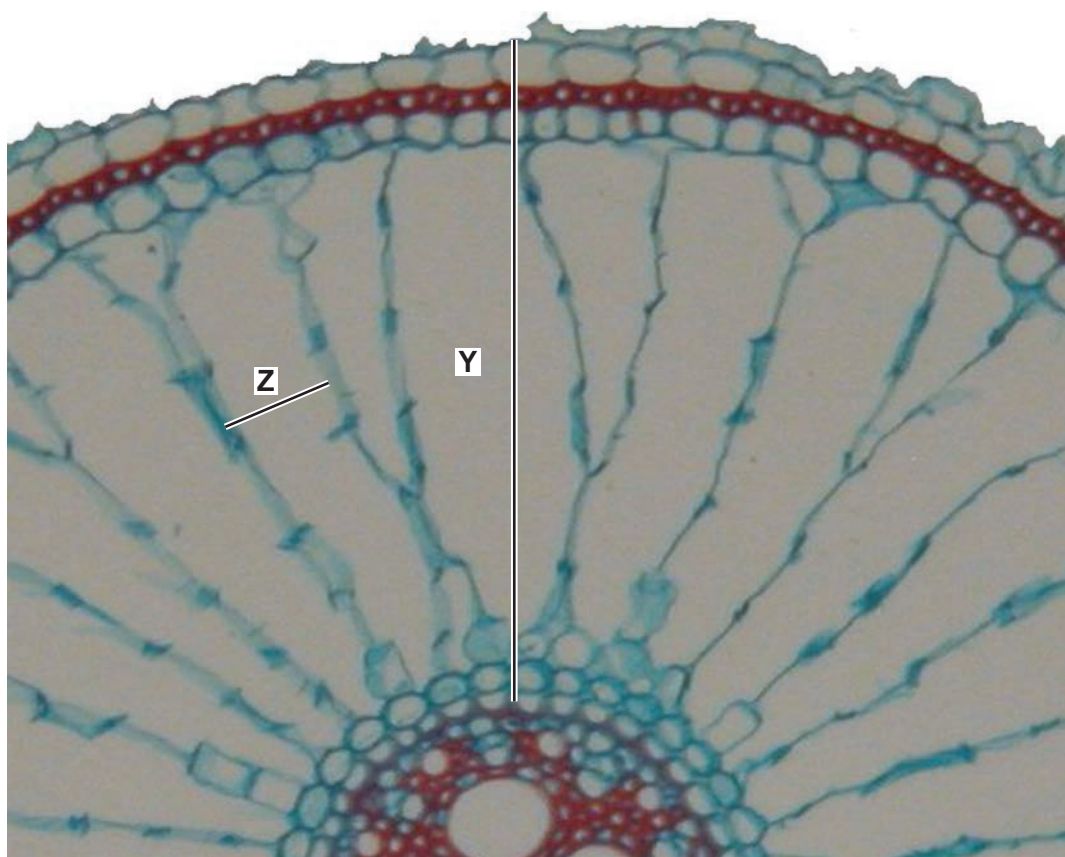

Fig. 2.2
Fig. 2.2 is a photomicrograph of part of a stained transverse section through a root of a different plant species. This plant species is found globally.
(b) Use the lines **Y** and **Z** shown on Fig. 2.2 to calculate the ratio of **Y** to **Z**.
- (c) Prepare the space below so that it is suitable for you to record observable differences between the specimen on **M1** and Fig. 2.2.